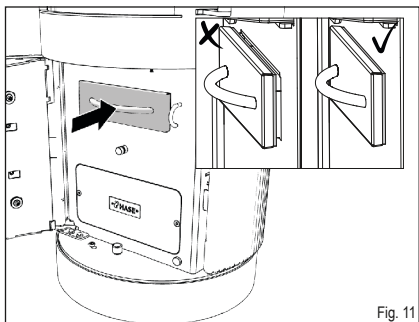

Fig. 11
- ✓ Slide the ash drawer back into the opening so it is flush with the seal (Fig. 11).